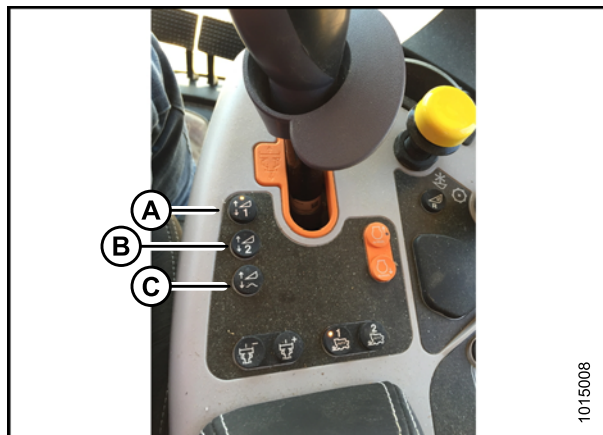

Figure 7.201: New Holland Combine Controls
5. Select one of the auto height set point buttons shown in Figure 7.201: *New Holland Combine Controls, page 241*.